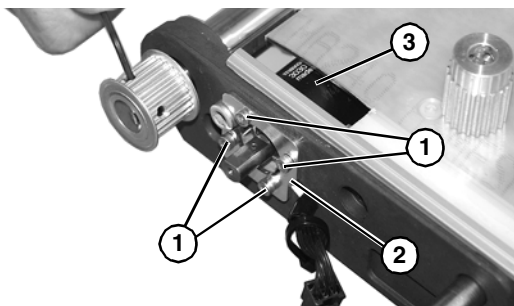

Figure 78
8. Remove four clamp plate screws (**Figure 78, item 1**) and clamp plate (**Figure 78, item 2**).
9. Remove motor (**Figure 78, item 3**).